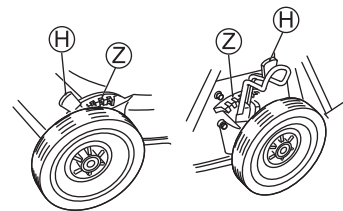

Fig. 21
2. Lean the cutting height adjustment lever (H) toward the wheel side, separating from the notches (dents) (Z). (See Figs. 21 and 22)